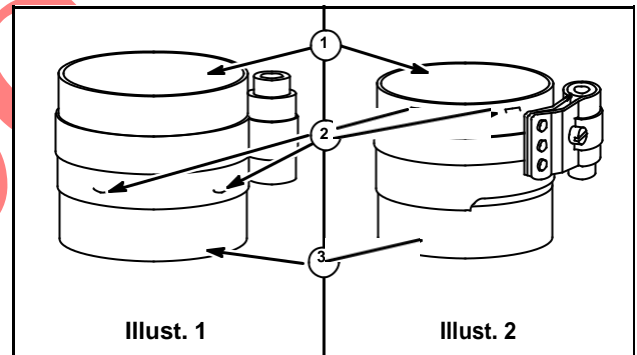

Fig. 11
NOTE: On aluminum bore engines, use ring compressor with the projections (2) at the top (1), as shown, Fig. 11, Illust. 2. On cast iron sleeve and cast iron cylinder engines, use ring compressor with the projections (2) at the bottom (3), as shown, Fig. 11, Illust. 1.